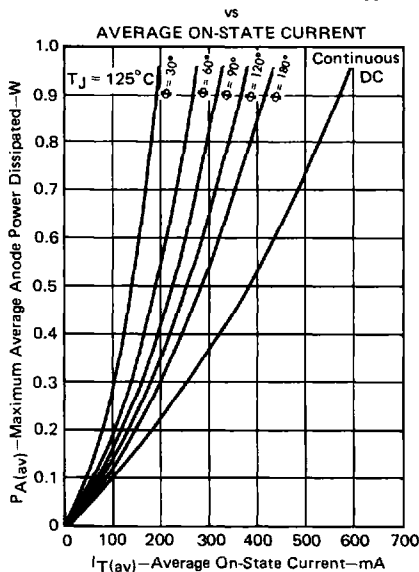

FIGURE 3
1. Determine worst-case power dissipation from Figure 3.
$P_{A(av)}$  = Average anode power dissipation (see Figure 3 for worst-case values)
Solution: From Figure 3,  $P_{A(av)} = 0.84\text{ W}$  for 0.4 A with 180° conduction angle. Using the equation of step 2 above: